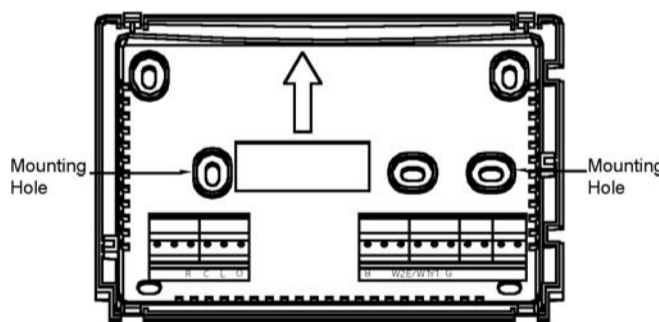

Figure 2. Thermostat base
2. Connect wires beneath terminal screws on base using appropriate wiring schematic (see Figures 2 through 6).